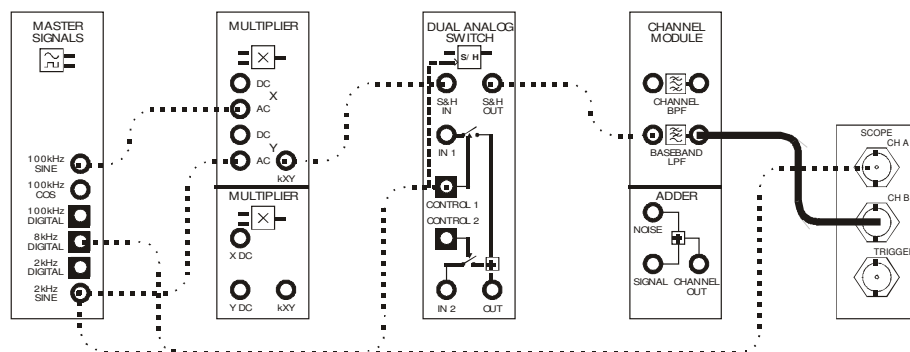

Figure 5
26. Modify the scope's Channel B connection to the set-up as shown in Figure 5 below.